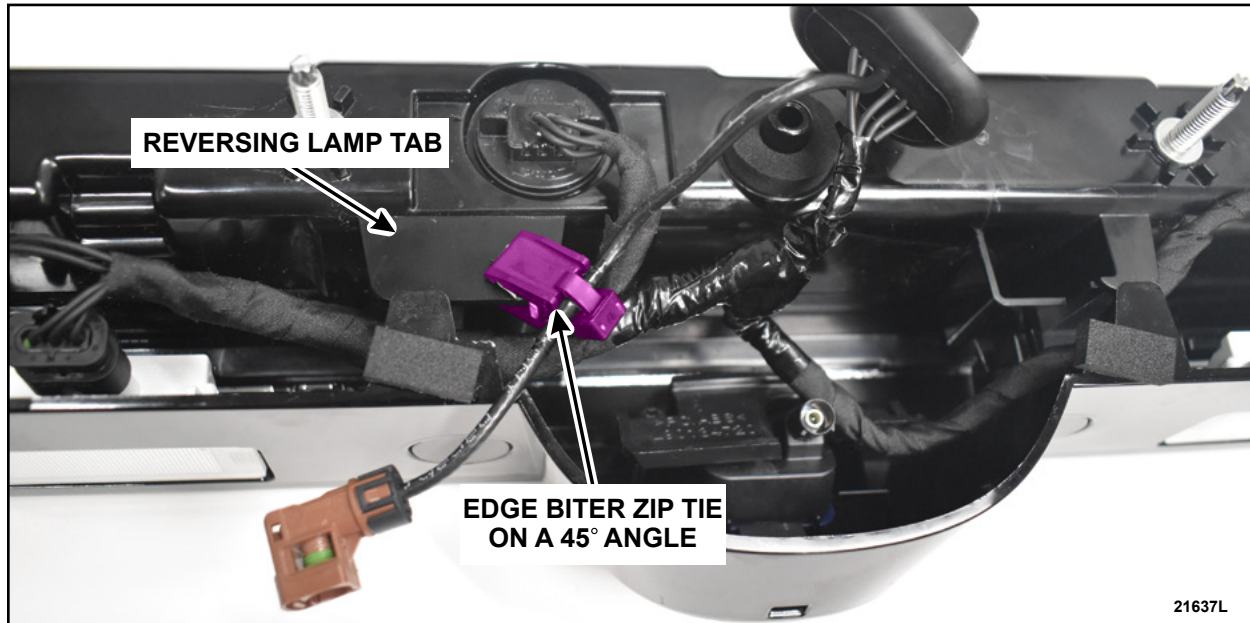

FIGURE 6
7. Secure the edge biter zip tie on the reversing lamp tab at a 45° angle. See Figure 6.